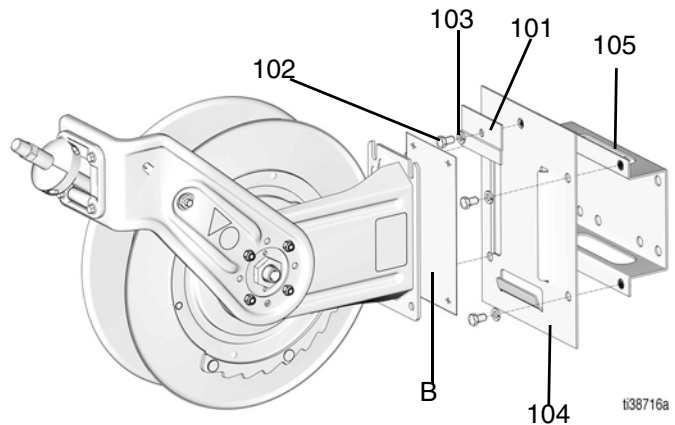
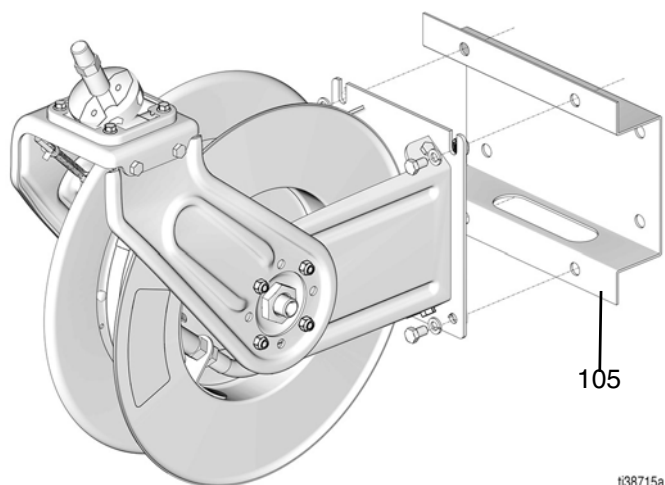

FIG. 12
FIG. 13
NOTE: The base plate (104) can be directly mounted to the wall for easier installation and removal of the hose reel for servicing (see FIG. 12 and FIG. 13).
- a. For mounting the reel directly to the wall, use the provided template (B) to lay out the holes for drilling.
- b. For mounting with kit 24H193, mount the base plate (104) to the wall, slide the hose reel onto the base plate (104), then install the hold down plate (101), the washer (103), and the cap screw (102). Tighten the screw firmly.
- c. For mounting with kits 24A934-24A939, mount the channel (105) to the wall, mount the base plate (104) to the channel (105), slide the hose reel onto the base plate (104), then install the hold down plate (101), the washer (103), and the cap screw (102). Tighten the screw firmly.
3. Slide the hose reel onto the base plate (104) then install the hold down plate (101), washer (103), and cap screw (102). Tighten the screw firmly.